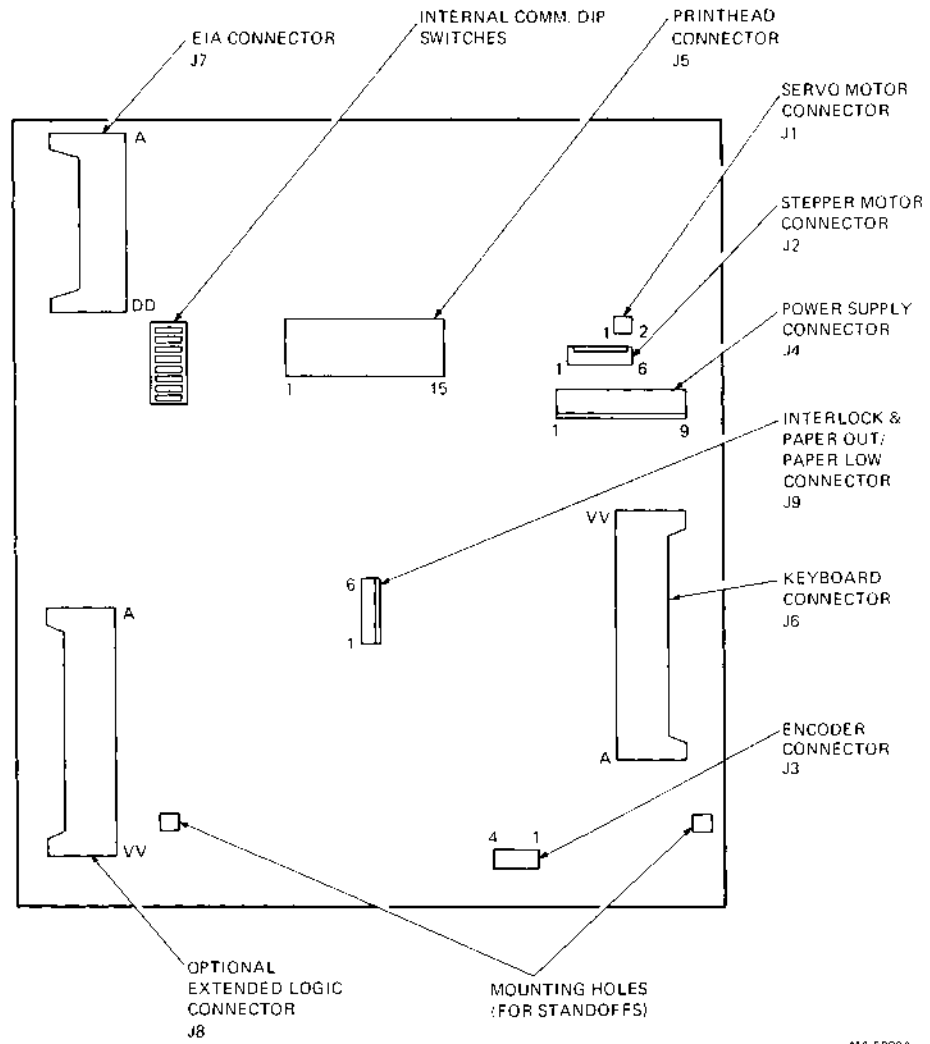
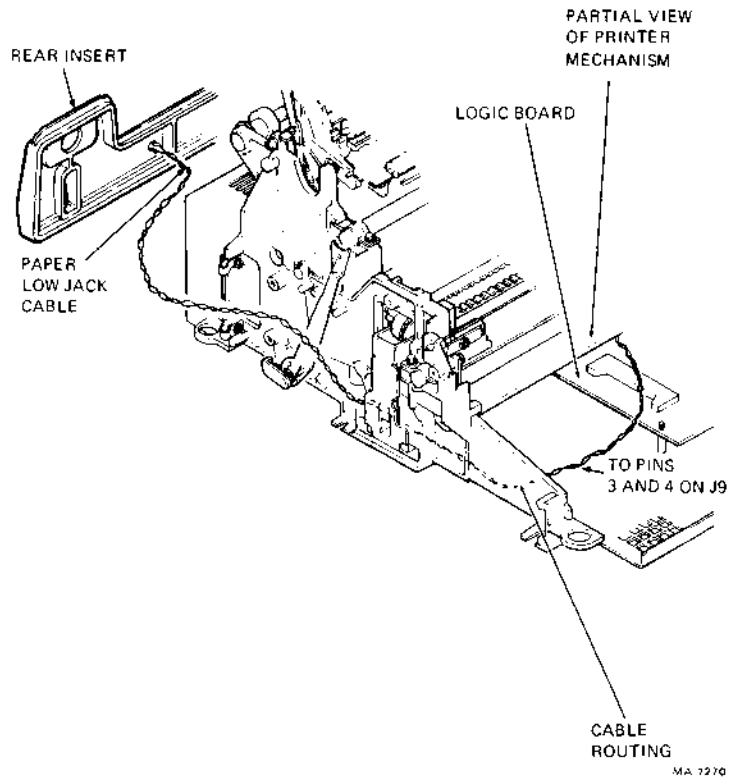

Figure 3-5 Control Board Connector Locations
Figure 3-14 Paper Low Jack Cable Routing
8. Remove the keyboard connector from J6 on the control board (Figure 3-5). Lift the keyboard bezel assembly straight out.
10. Move the EIA interface cable connected to J7 on the control board until there is room at the left to install the option board (Figures 3-5 and 3-7).
16. Reconnect the interlock and paper out/paper low connector to J9 on the control board (Figure 3-5).
11. Route paper low cable around the printer mechanism (Figure 3-14). Connect the cable terminals to jack J9, pins 3 and 4 on the control/logic board (Figure 3-5). The terminal for the white wire connects to J9 pin 3 and the terminal for the black wire connects to J9 pin 4. Push the terminals straight down into the jack.